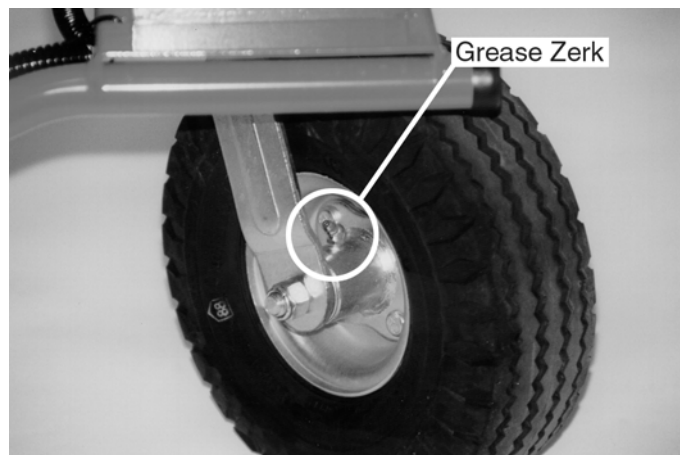

Figure 23
2. There is also a grease zerk on the caster wheel (*Figure 23*). Grease it occasionally to keep the wheel spinning freely.